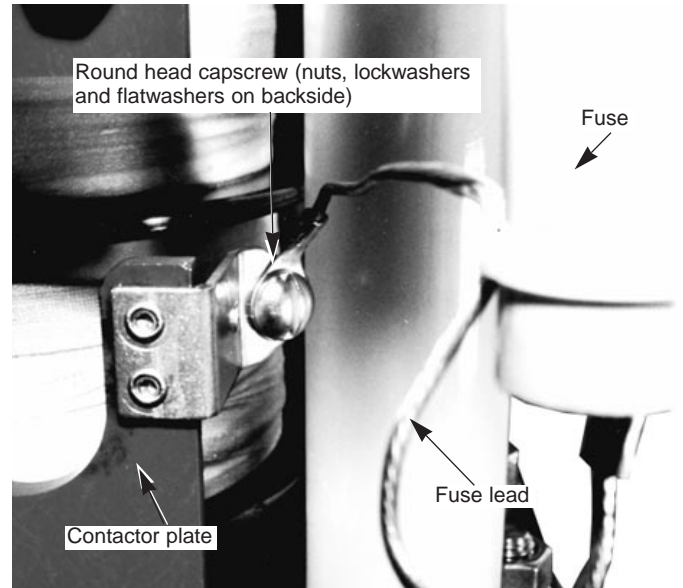

Figure 7.
6. Remove the round head capscrews, hex nuts, bronze lockwashers and brass flatwashers from the contactor plate used to connect the fuse leads, and discard the hardware (refer to Figure 7).